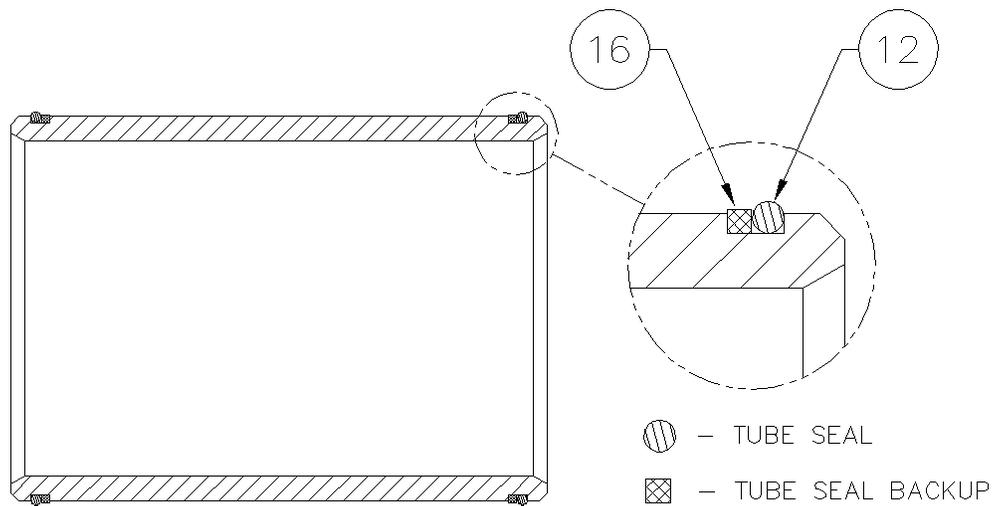

figure A-2
2. Install the tube seal (12) (fig. A-2) and “square” tube seal backup (16) on each end of the actuator tubes (3) (fig. A-13). Be sure that the “square” tube seal backup ring is toward the inside of the tubes at both ends as shown. Press all rings firmly into the grooves. Repeat this procedure for the other tube.